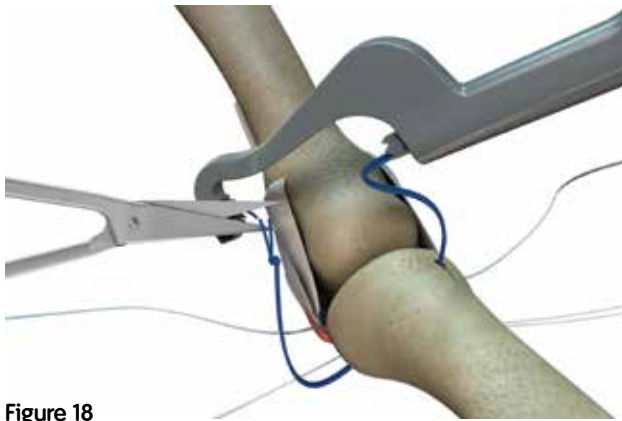

Figure 18
7. Cut the suture between the distal suture knot and the pledget to free the drill guide. Grasp the suture loop and remove the guide, leaving the suture loop in the tunnel (Figure 18).